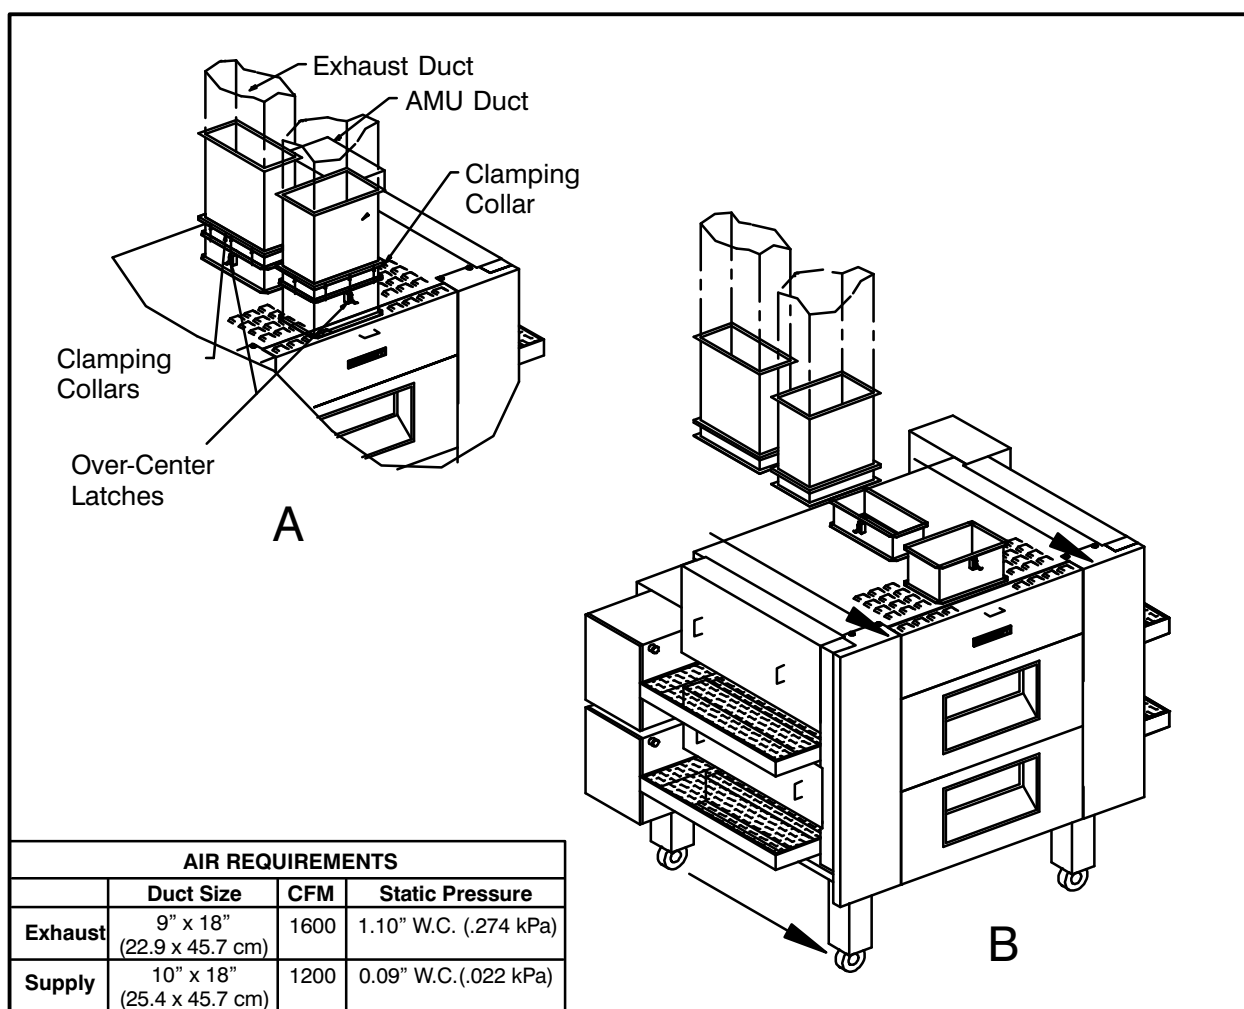

FIGURE 4
4. Roll the oven out away from the wall. (See FIGURE 4).